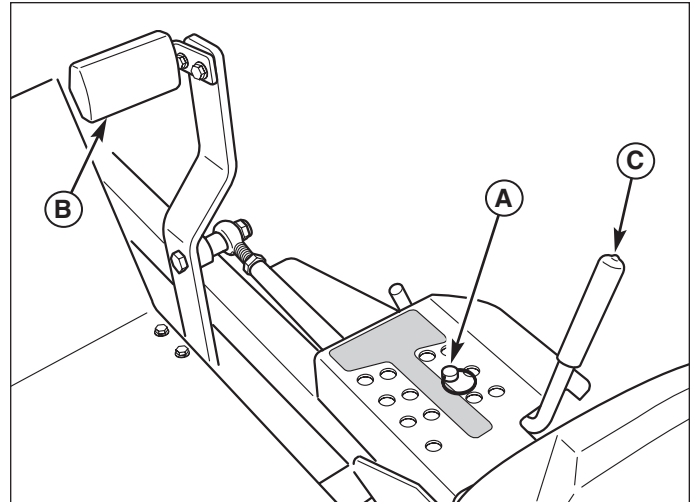
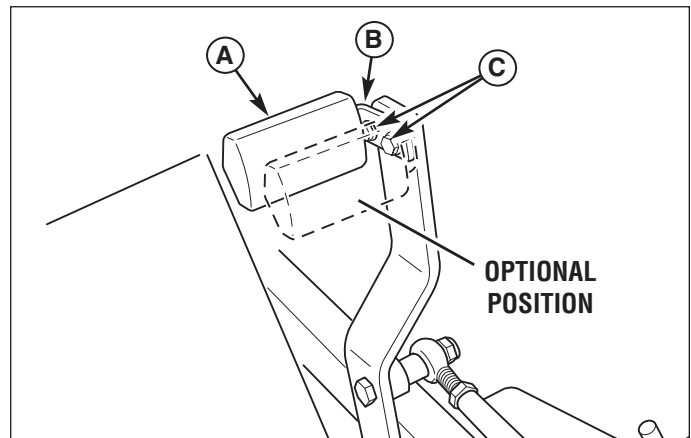

Figure 30. Mowing Height Adjustment
Figure 31. Foot Pedal Adjustment
The cutting height adjustment pin (A, Figure 30) controls the mower cutting height. The cutting height is adjustable between 1-3/4" (4,4 cm) and 5" (12,7 cm) in 1/4" (0,64 cm) increments.
1. Remove the foot pedal (A, Figure 31) from the pedal mount tab (B).
2. Remove the pedal mount hardware (C) and rotate the tab 180 degrees.
4. Reinstall the foot pedal on the pedal mount tab in the proper orientation as shown in Figure 30.